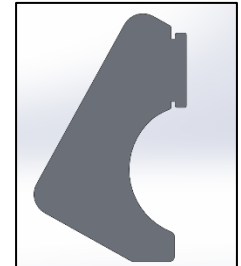

FIG.5 ACOUSTIC FIN
4. ACOUSTIC FINS (shown in FIG. 5)